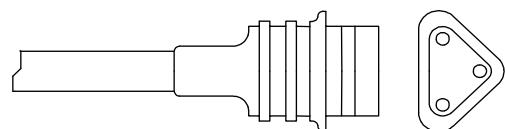
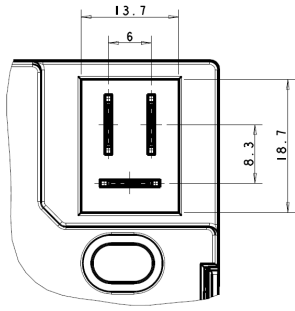

Fig. 2
Fig. 3
- F:** supply with fast-on (Fig. 3);
The transformers can be provided with a power supply cable equipped with a triangular die-cast outlet type SP1 (Fig. 2/4), or female terminals of 6.35x0.8 dimensions (for outlet of Fig.3); cable length and termination type depend on customer's request.